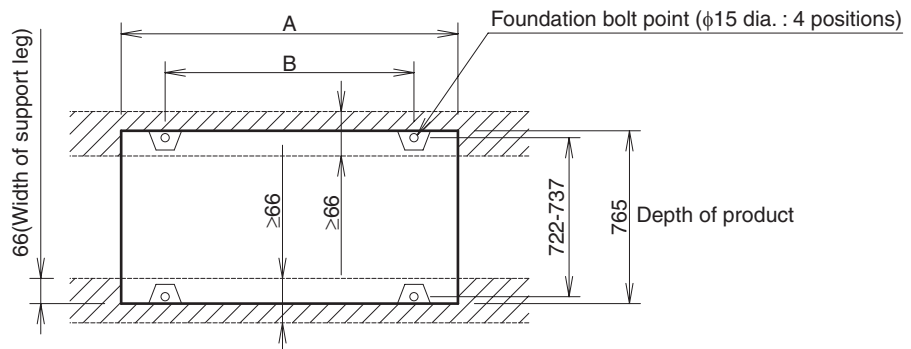

figure 8
- The base should be bigger around than the width of the unit's legs (66 mm), and should support the unit. **(Refer to figure 8)**